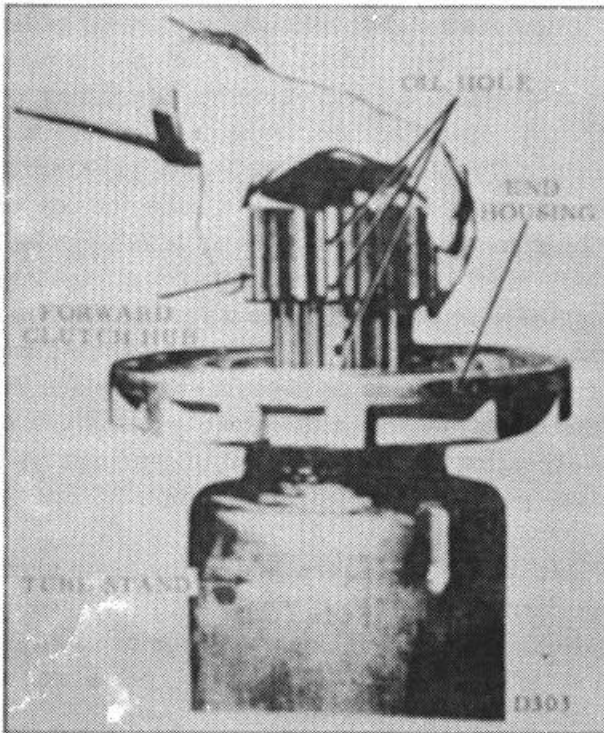

Figure 21.
2. Place the assembly in a tubular fixture. Slide the forward clutch hub onto the spline of the forward drive gear, making sure the oil holes are aligned. (Fig. 21) Secure the hub with a snap ring.